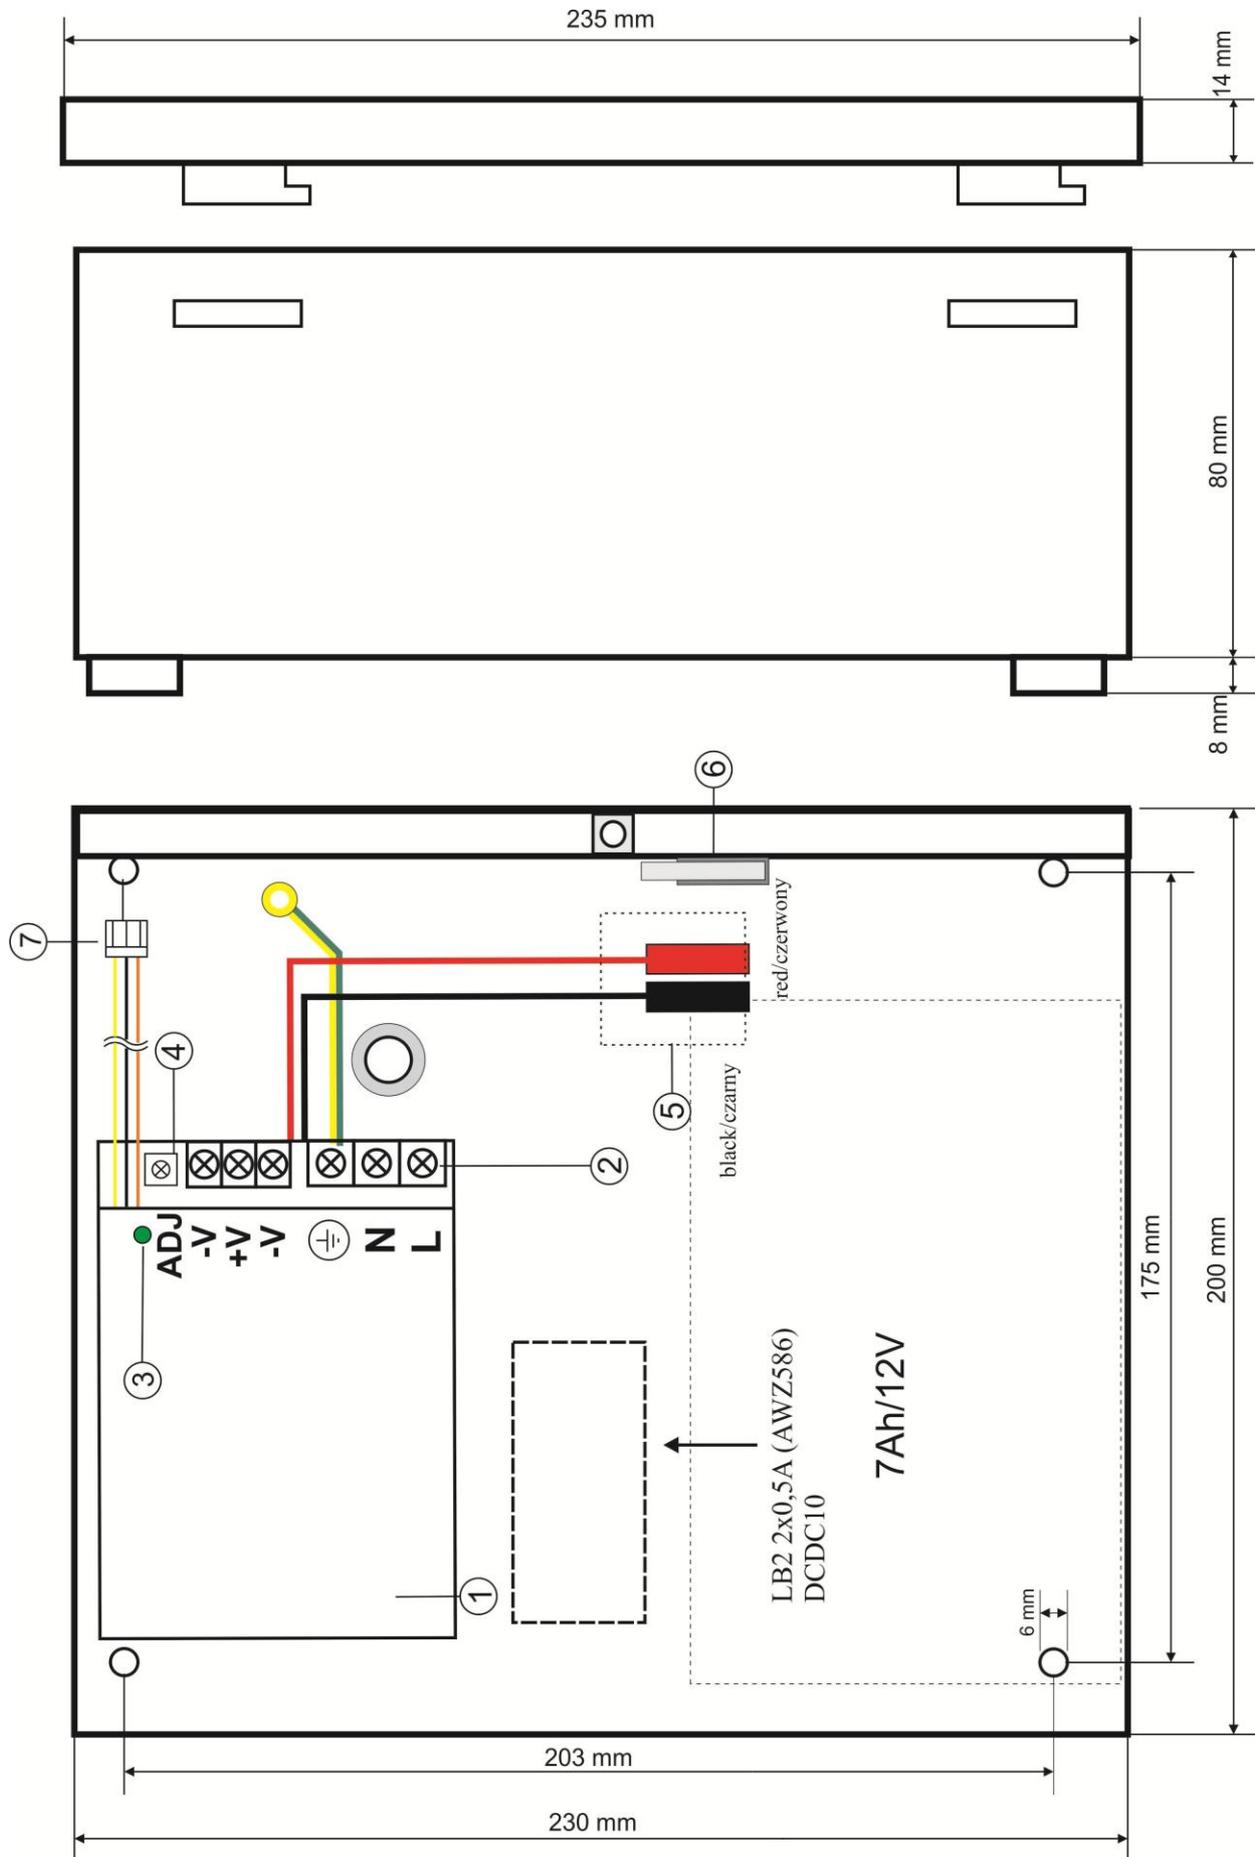

Fig.2. The view of the PSU.
1.3 Description of PSU components and connectors ( tab.1, tab.2, fig.2).
Part no. [Fig. 2]	Description
Part [Fig. 2]	Description
Fixation	see Fig. 2